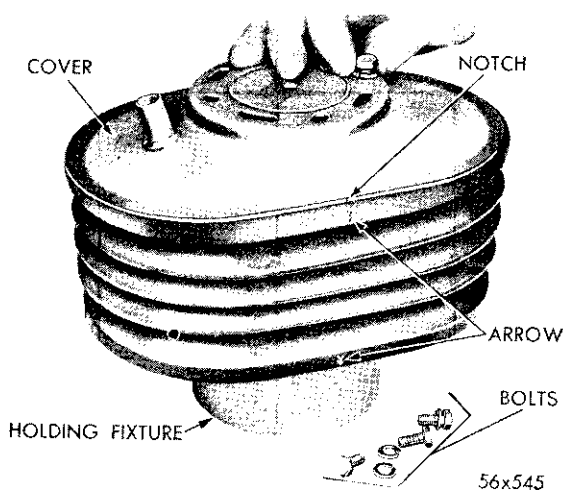
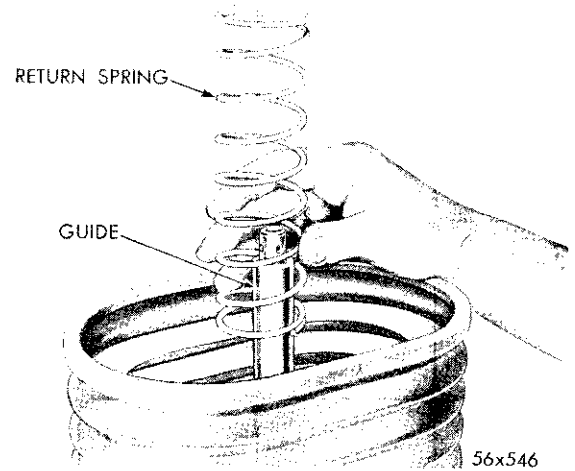

Fig. 38—Installing the Valve Housing Cover
Fig. 39—Installing the Return Spring
(15) Install the air valve spring in the recess in the air valve and air filter.
(16) Install the new valve housing cover "O" ring on the shoulder provided on the valve body hub.
(17) Position the valve body cover over the valve housing, with the notch in the edge of the cover matching the arrow on the bellows (Fig. 38). Be sure the air valve spring nestles on the dimple in the center of the cover.
(18) Press the cover down evenly over the valve housing to seat the cover "O" ring, install the bolts, and tighten securely.
(19) Remove the assembly from the holding fixture and invert the unit.
(20) Coat the guide lightly with silicone grease and install the return spring.
(21) Position the spring evenly around the hub of the valve housing and guide (Fig. 39).
(22) Place the spring retainer and inner mounting plate over the spring, being sure the arrow stamped on the plate is in line with the arrow on the edge of the bellows.
(23) Compress the return spring and fold the bellows lip over the edge of the plate. Be sure the bellows fit evenly all around the plate.
(24) Install the new guide bearing seal in the groove inside the bearing bore.
(25) The seal must rest snugly in the bearing.
(26) Using silicone grease, lubricate the inside of the bearing and slide it over the guide, while